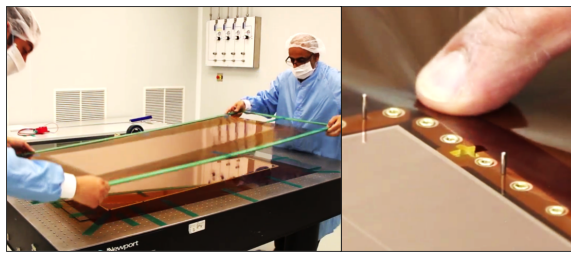

Figure 66: Placing GEM2.
Step 17: Take the second GEM foil and place it onto the stack using the guiding pins for the alignment (Fig. 66).